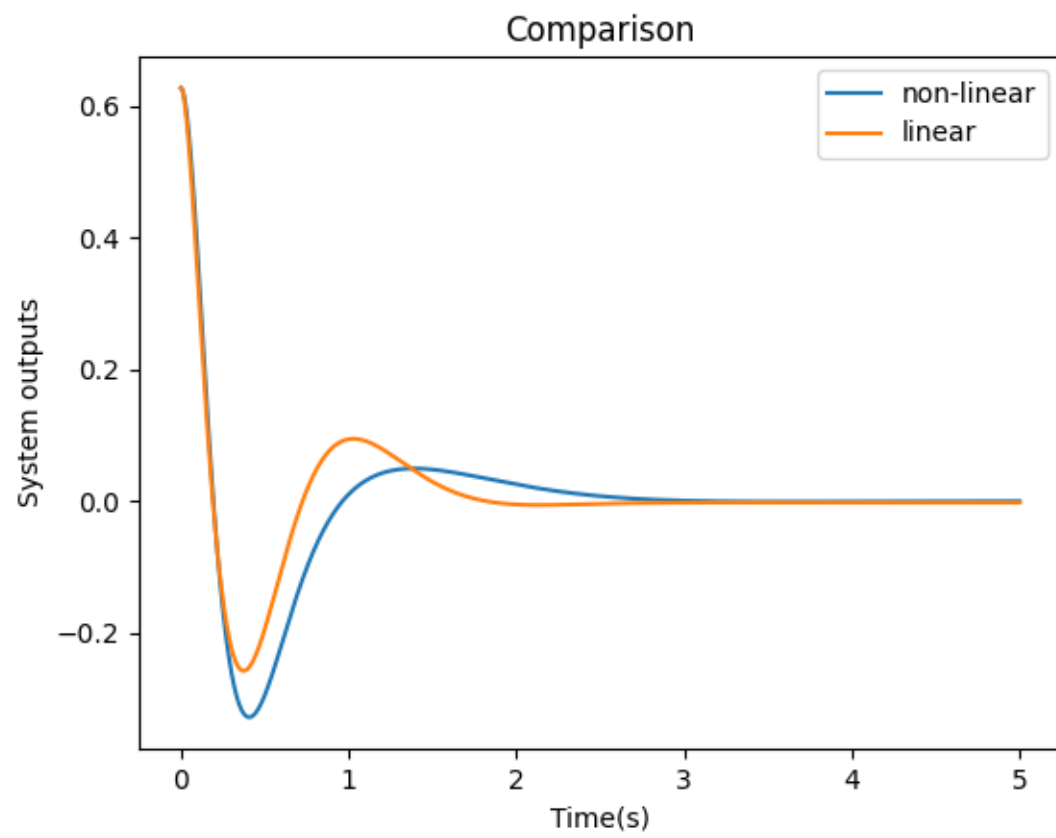

Figure 9: Comparison
4. The comparison between the linear and nonlinear system can be seen in the system below in Figure 9